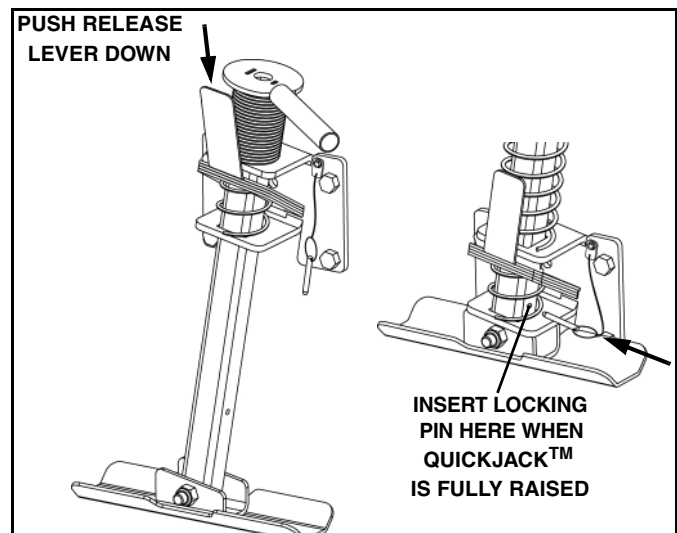

Figure 1-34
4. Raise QuickJack™ foot by pushing down on its release lever. Insert the locking pin in the QuickJack™ tube to prevent the jack from dropping during transport or plowing operations. (See Figure 1-34).